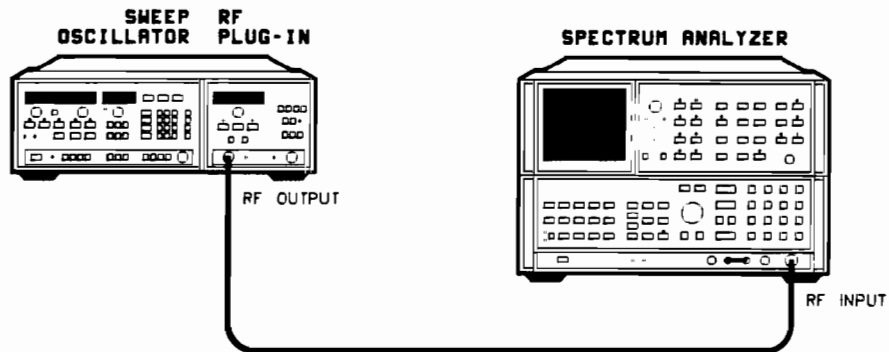

Figure 4-5. Residual FM Test Setup
1. Connect the equipment as shown in Figure 4-5. Allow one hour warm up time.